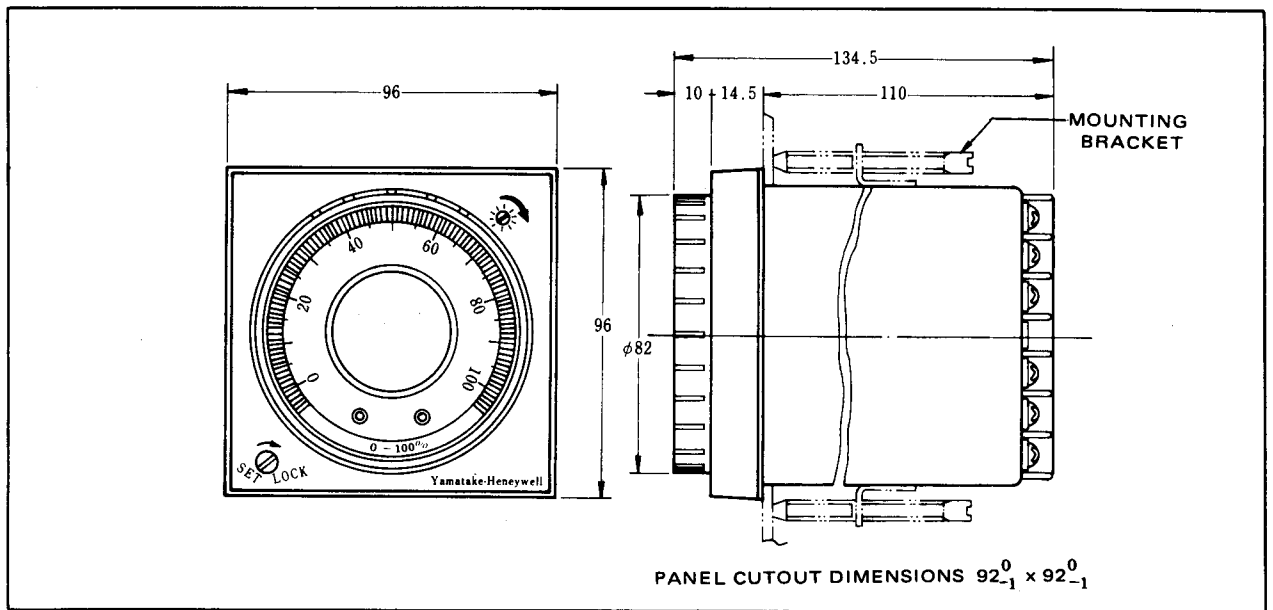

Fig. 1
### (2) Installation Method (See Fig. 1.)